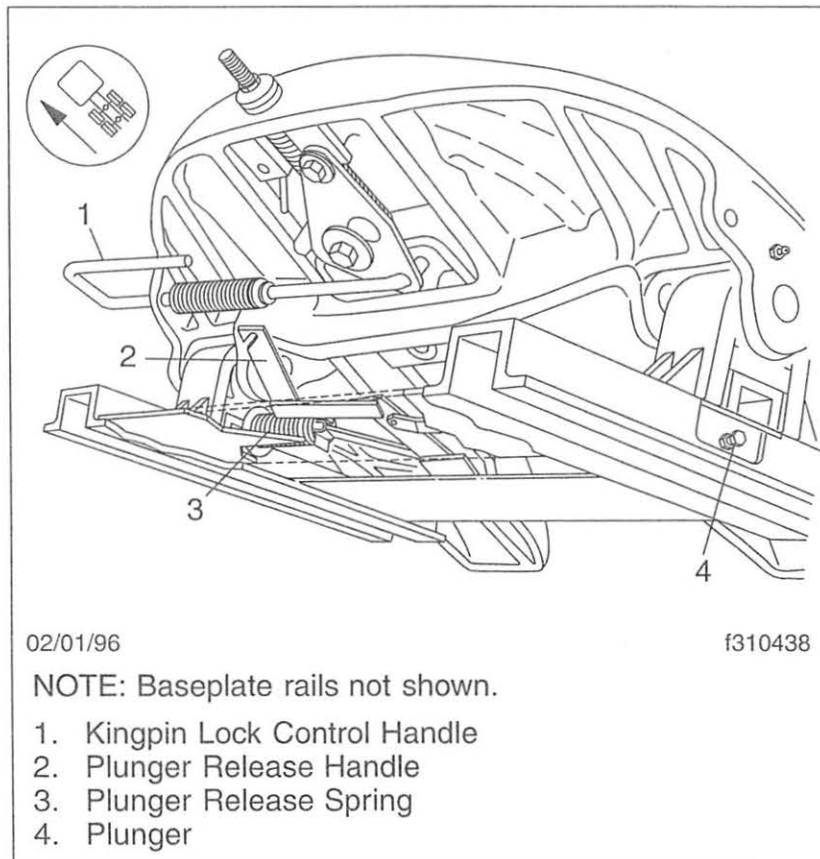
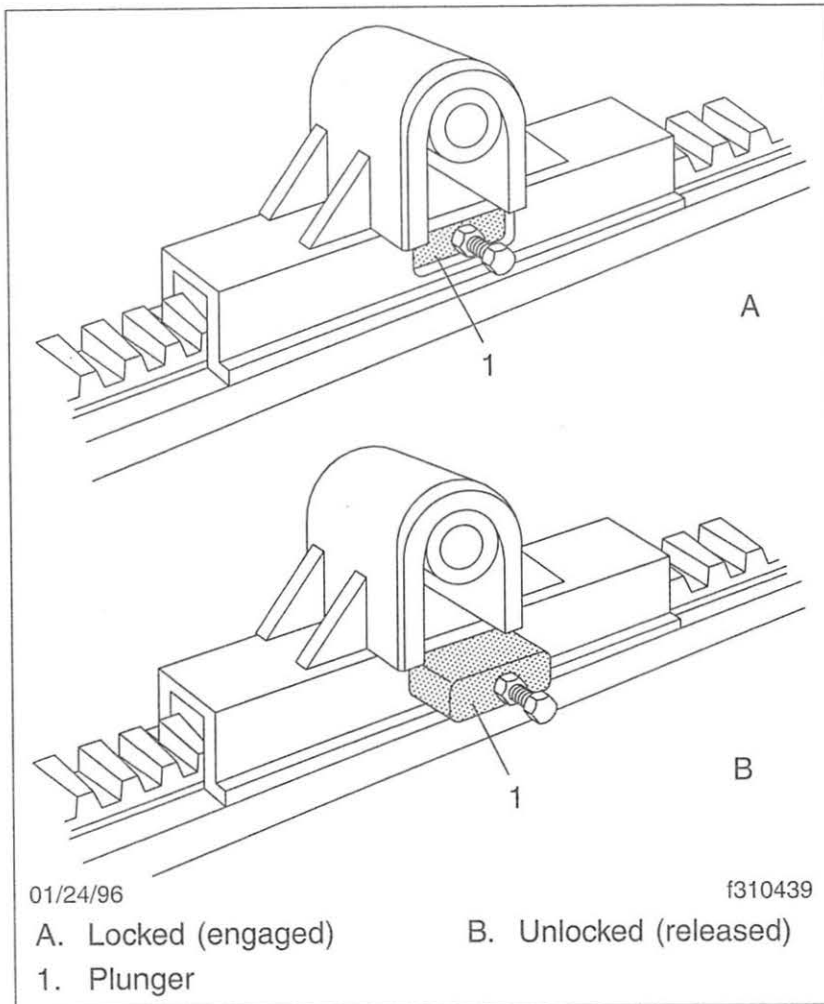

Fig. 10.3, Manual Release Slide
Fig. 10.7, Plunger Positions
The manual release slide assembly (**Fig. 10.3**) is equipped with a single release lever. Pulling on the release lever unlocks both plungers.
- 2.2 For manual release models, pull the release lever (**Fig. 10.3**) using a release hook, or other suitable tool. Make sure both slide
plungers have released. See **Fig. 10.7**. If the plungers haven't released (haven't come out), lower the trailer landing gear to relieve pressure on the plungers.
- 8.1 For air-operated models, set the cab-operated control switch to LOCK. Visually check the slide plungers to make sure they are engaged in the fully locked position. See **Fig. 10.7**.
- 8.2 For manual release models, trip the release lever (**Fig. 10.3**) using a release hook or other suitable tool. Make sure that both plungers have locked (retracted into their pockets), and are fully engaged in the rack teeth. See **Fig. 10.7**. It may be necessary to move the tractor slightly while keeping the trailer brakes locked.